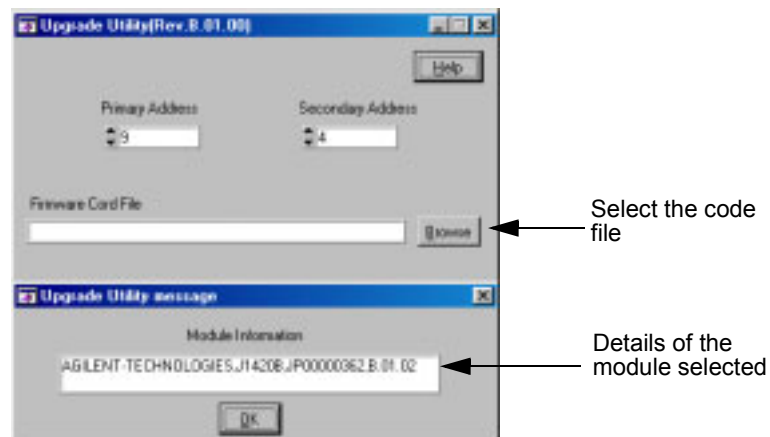

Figure 7-2. Select the Module
2. Select the primary and secondary GPIB addresses of the module to be upgraded and click on the *IDN? button to confirm the module as shown in Figure 7-2.